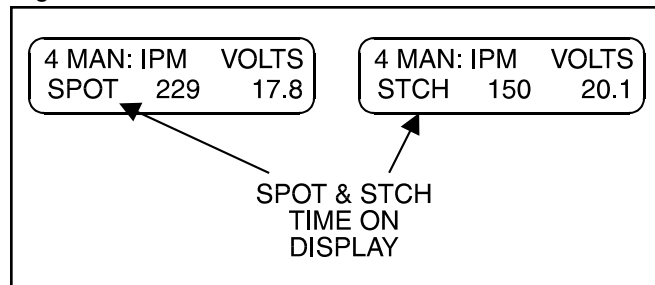

FIGURE B.2 - Display when Stitch or Spot Weld Timers are ON.
NOTE: If the spot or stitch timers are ON, it will be indicated in the bottom left corner of the display. See Figure B.2.
8. SPOT KEY: Press to turn ON the Spot Weld Timer and display the spot weld ON time. Pressing the SPOT KEY a second time returns the screen to the previous display without turning off the spot timer. Anytime the Spot weld timer is on and the display is in the Auto or Manual mode, the word SPOT will appear in the bottom left corner of the display. See Figure B.2.
9. STITCH KEY: Press to turn Stitch Weld timers ON and display the Stitch Weld ON and OFF times. Pressing the STITCH key a second time returns the screen to the previous display without turning off the stitch timers. Anytime the Stitch weld timers are on and the display is in the Auto or Manual mode, the abbreviation STITCH will appear in the bottom left corner of the display. See Figure B.2.